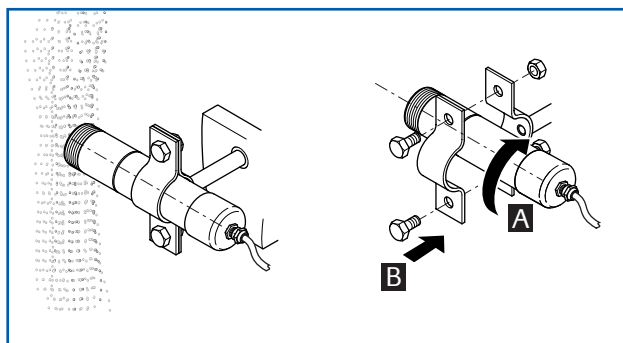

Fig. 5: Mounting with pipe clamp
- mounted with the help of a pipe clamp (fig. 5)